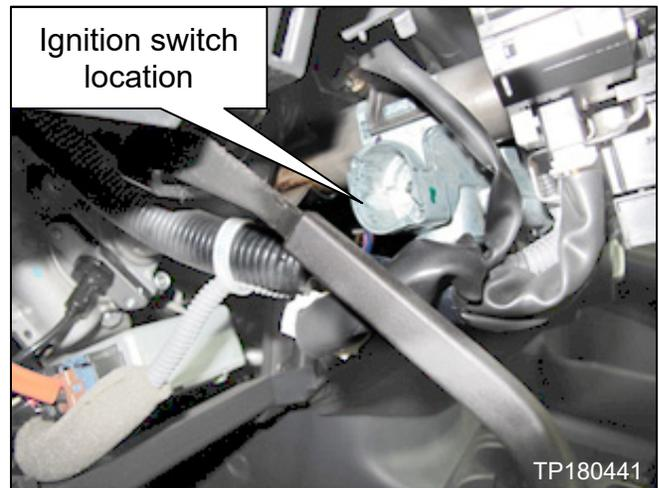

Figure 53
- Figure 53 shows ignition switch already removed.